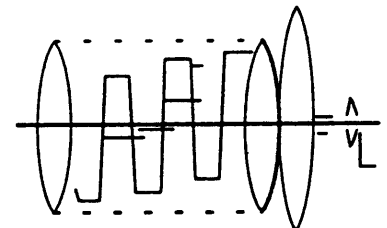

Fig.10.
1. Adjust APC trimmer (C637) to obtain the waveform at TPC15 as shown in Fig.10.